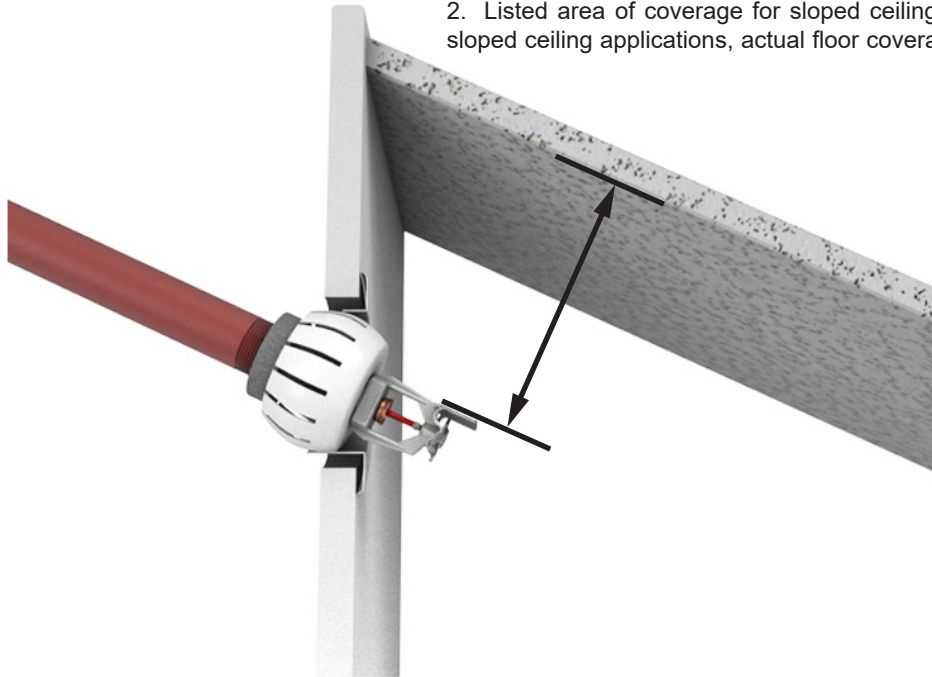

Figure 6: Model G-1 Recessed Escutcheon Installed with an EC HSW Sprinkler below a sloped ceiling.
Sprinkler VK609 (Base Part No. 13971) for Quick Response - QREC Specific Application - Maximum 175 PSI WWP For installation with the deflector located 4" to 6" (102 mm to 152 mm) below sloped 8 ceilings with slopes from 2/12 through 4/12 (9.5° to 18.4°) pitch. Sprinkler must be located at the high-point intersection of the wall and the ceiling with spray directed down the slope. Refer to Figure 6.
1 Base part number is shown. For complete part number, refer to current Viking price list schedule. 2 Metric K-factor shown is for use when pressure is measured in kPa. When pressure is measured in bar, multiply the metric K-factor by 10.0. 3 This chart shows listings and approvals available at time of printing. Check with the manufacturer for any additional approvals. 4 Listed by Underwriter's Laboratories, Inc. for use in Canada. 5 Meets New York City requirements, effective July 1, 2008. 6 Listings and Approvals are limited to Light Hazard Occupancies where allowed by the installation standards being applied. 7 For areas of coverage smaller than shown, use the "Minimum Water Supply Requirement" for the next larger listed area of coverage with sprinklers of similar K-Factor. 8 Listed area of coverage measured along ceiling slope. Consult Figure 6 for installation notes. 9 cULus Listed as corrosion resistant.
- In sloped ceiling installations, sprinkler VK609 is listed for installation at the high-point intersection of the wall and the ceiling. In sloped ceiling installations, the spray must be directed down the slope. Spray may NOT be directed across the slope. Refer to Figure 6.
- Refer to the Approval Chart for required deflector distance below the ceiling. Install with the leading edge of the deflector oriented parallel to the ceiling (see Figure 6).